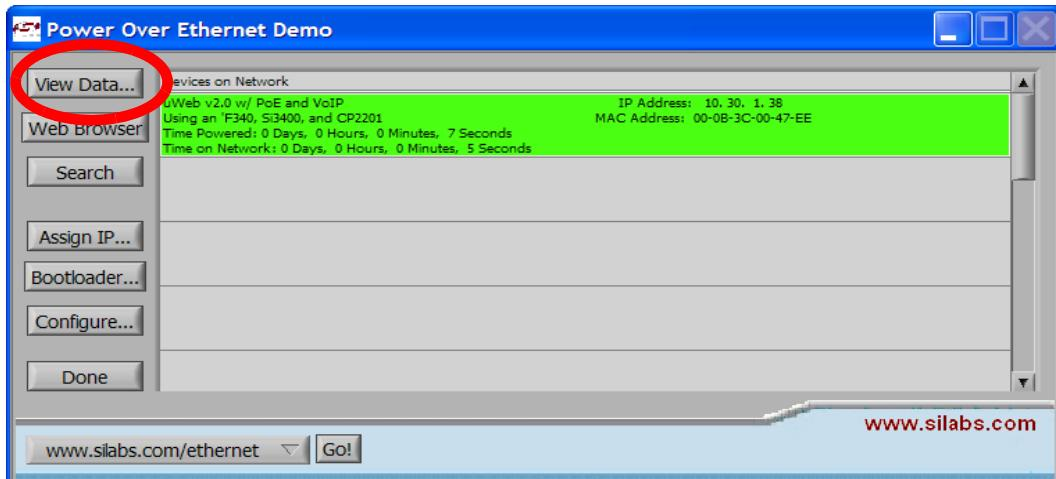

Figure 4. View Data Button
- Press **Done** when the assignment is complete. Then click **View Data...** on the main panel as shown in Figure 4.